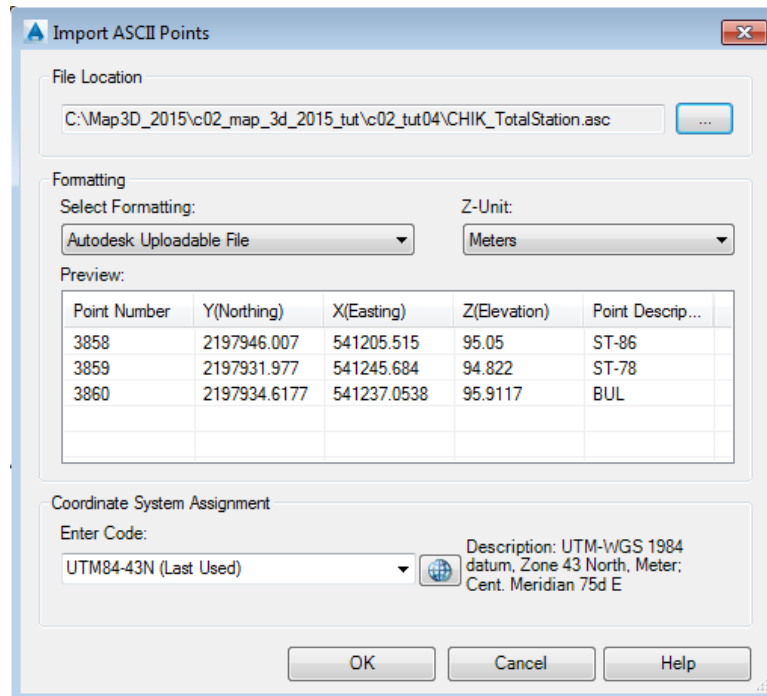

Figure 2-34 The **Import ASCII Points** dialog box displaying the preview of the selected data
- Next, choose the **OK** button; the **Import ASCII File** dialog box is closed. Notice that the path of the selected file is displayed in the **File Location** edit box of the **Import ASCII Points** dialog box. Also, preview of the selected data is displayed in the **Preview** area, as shown in Figure 2-34.